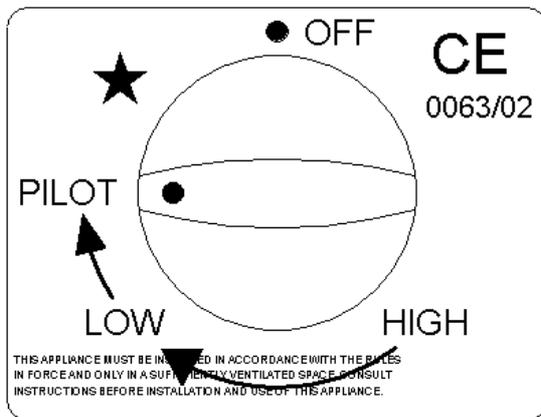

Fig 4e
Step 3. To turn the main burner off while keeping the pilot alight, rotate the operating knob back to the **PILOT** position. (Fig 4e)